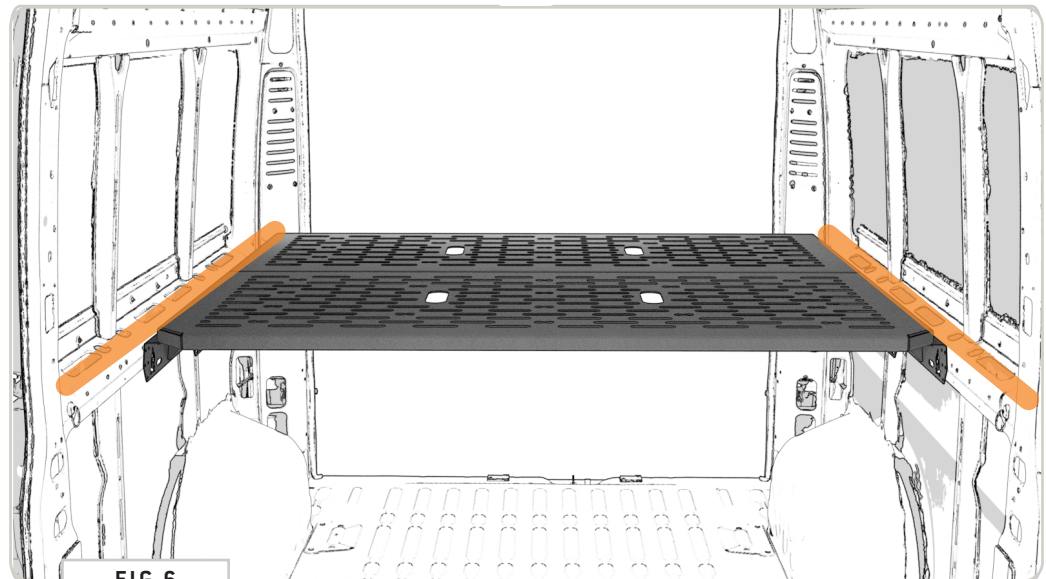

FIG 6
2.2c The structural member along the wall that provides the most surface area for securing the rails is highlighted in FIG 6.